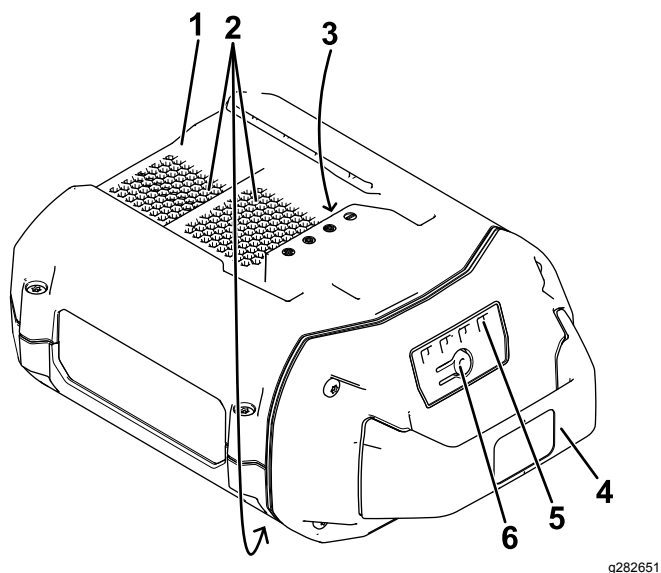

Figure 7
2. Line up the cavity in the battery pack (Figure 7) with the tongue on the charger.